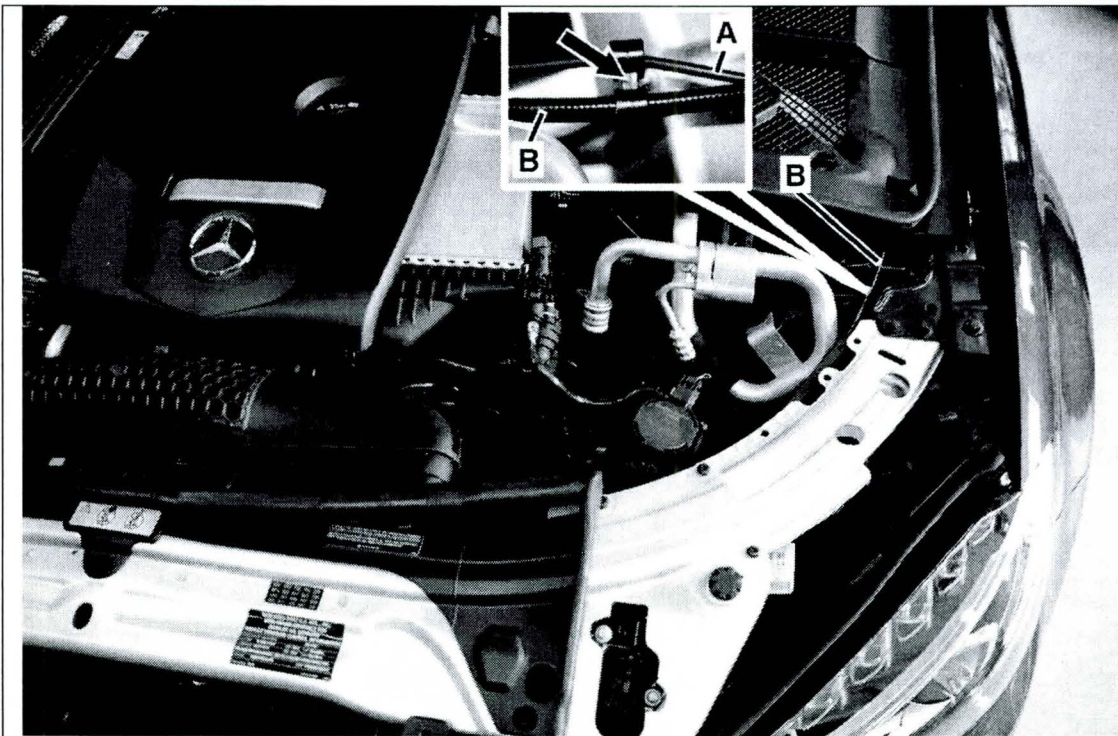

Figure 11
14. Secure illuminated star wiring harness (A, Figure 11). to hood release cable (B) using cable spacer clip (arrow).